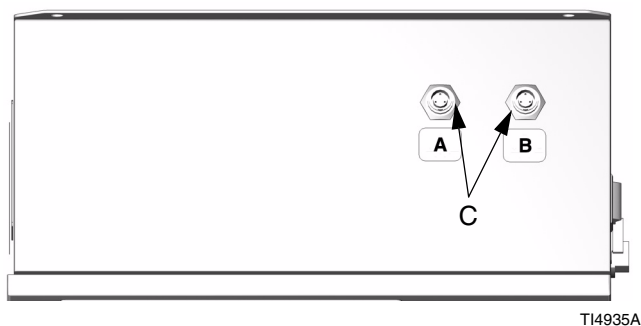
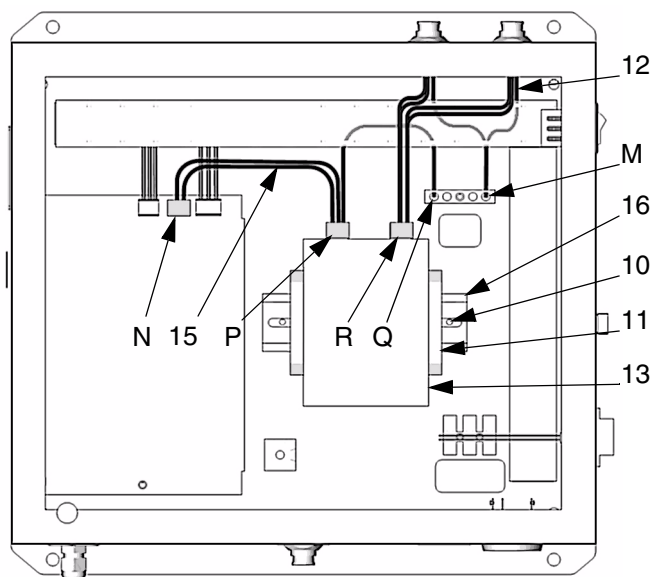
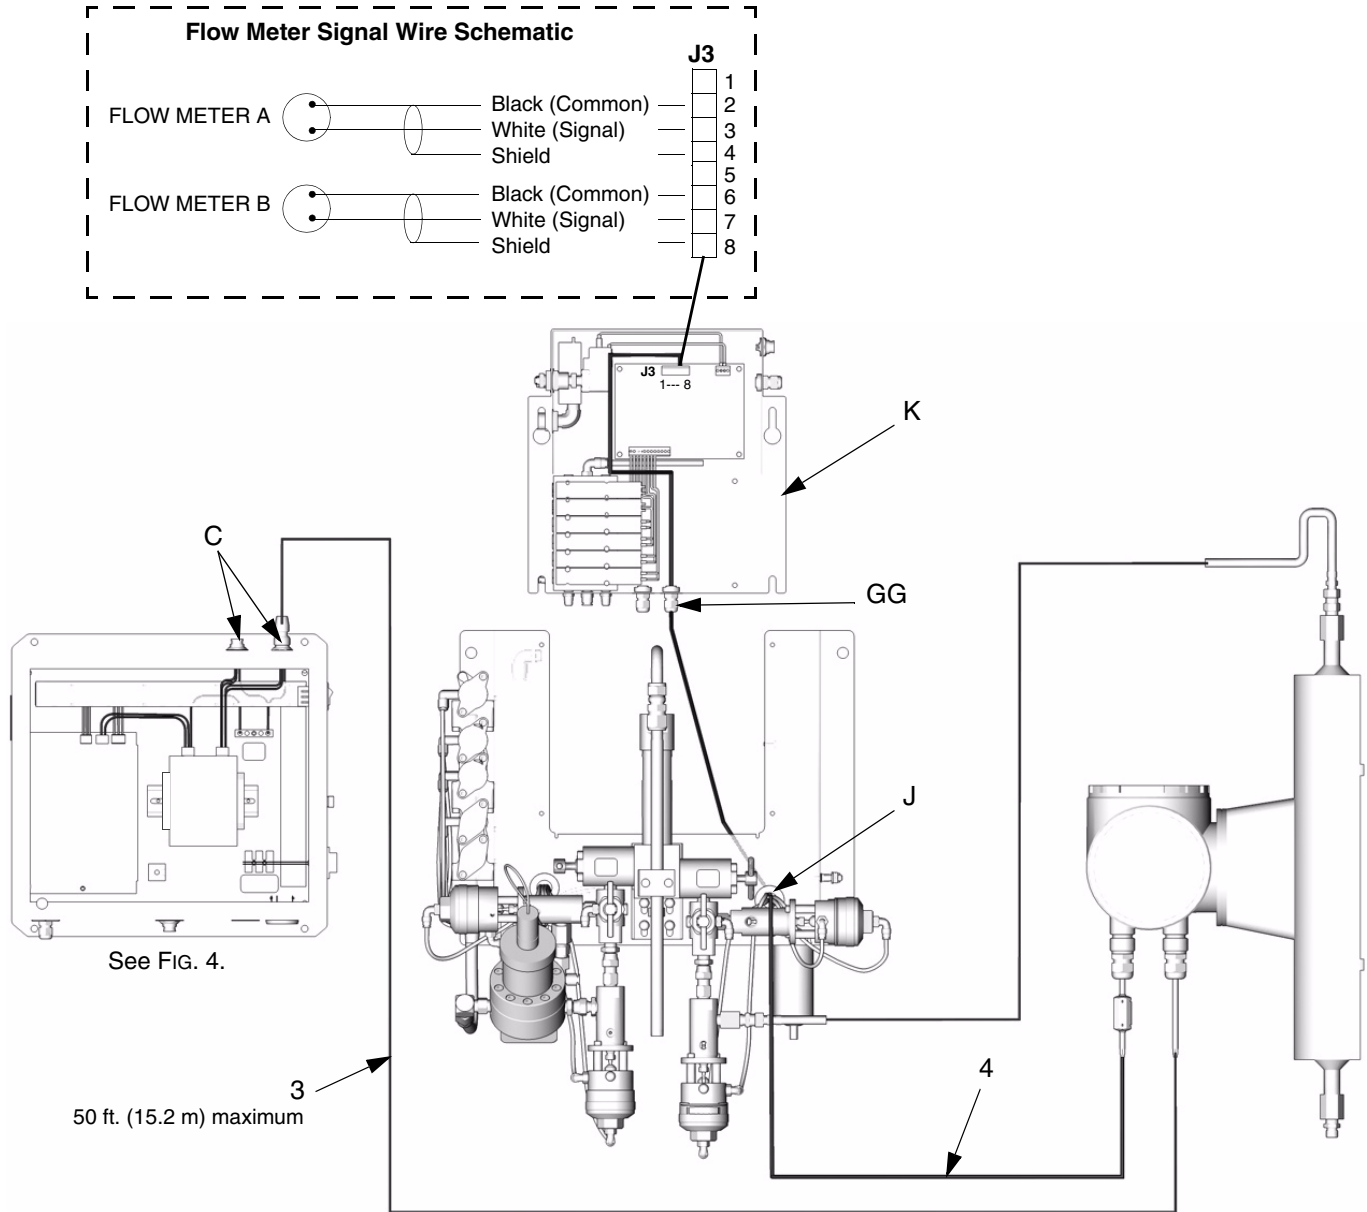

FIG. 3
FIG. 4
FIG. 5
- The meter must be located within 50 ft. (15.2 m) of the EasyKey™ display and as close to the proportioner fluid panel as possible. FIG. 5, page 7.
4. Apply the A and B labels as shown in FIG. 3.
5. Install DIN rail (16), using 2 screws (10). FIG. 4.
6. Install power supply (13) on DIN rail (16) with input/output connectors facing up.
7. Install DIN rail end blocks (11) to prevent power supply from moving.
1. Connect line power supply harness (15) between power supply circuit board (N) and power supply input (P). FIG. 4.
2. Connect the harness (15) ground wire ferrule to ground terminal (Q).
3. Install the 2 bulkhead connectors [C - included with power supply harness (12)] in the knock out holes. FIG. 3.
4. Plug the harness (12) connector into the power supply output (R). FIG. 4.
5. Connect the harness (12) ground wire ferrule to the ground terminal (M).
7. Connect the power cable (3) to the appropriate bulkhead connector (C) on top of the EasyKey™ enclosure. FIG. 5.
1. Route the 10 ft. (3 m) signal cable (4) through the proportioner fluid panel hole (J) and into the enclosure through the strain relief (GG). FIG. 5. Leave enough slack in the cable so the enclosure (K) can be raised for service.
2. See FIG. 5 for electrical connections.